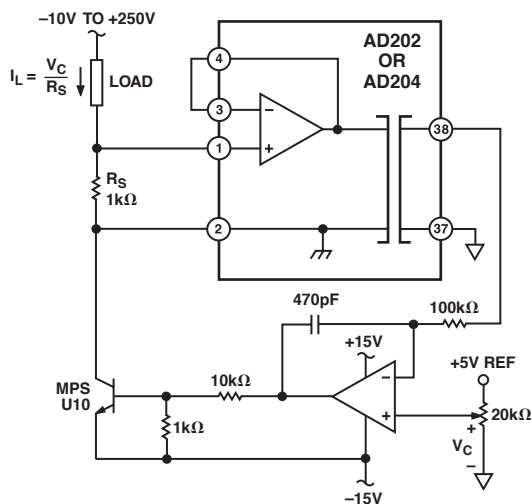

Figure 19. High Compliance Current Source
**High Compliance Current Source.** In Figure 19, an isolator is used to sense the voltage across current-sensing resistor  $R_S$  to allow direct feedback control of a high voltage transistor or FET used as a high compliance current source. Since the isolator has virtually no response to dc common-mode voltage, the closed-loop current source has a static output resistance greater than  $10^{14} \Omega$  even for output currents of several mA. The output current capability of the circuit is limited only by power dissipation in the source transistor.